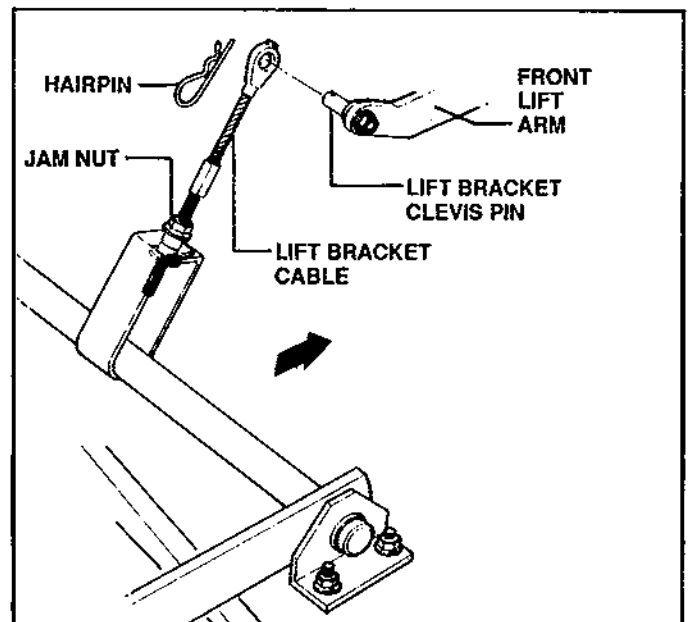

FIGURE 26
2. Remove hairpin from **FRONT LIFT BRACKET CABLE** clevis pin. See Figure 26.